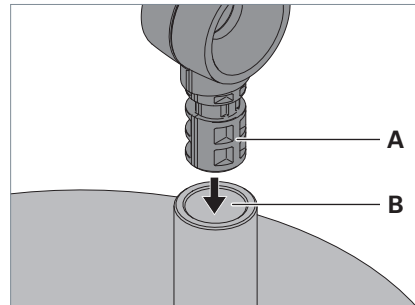

Fig. 2: Mounting a luminaire on a standing base.
- ▶ Insert the stud **A** on the luminaire column into the opening **B** of the standing base, see Fig. 2.